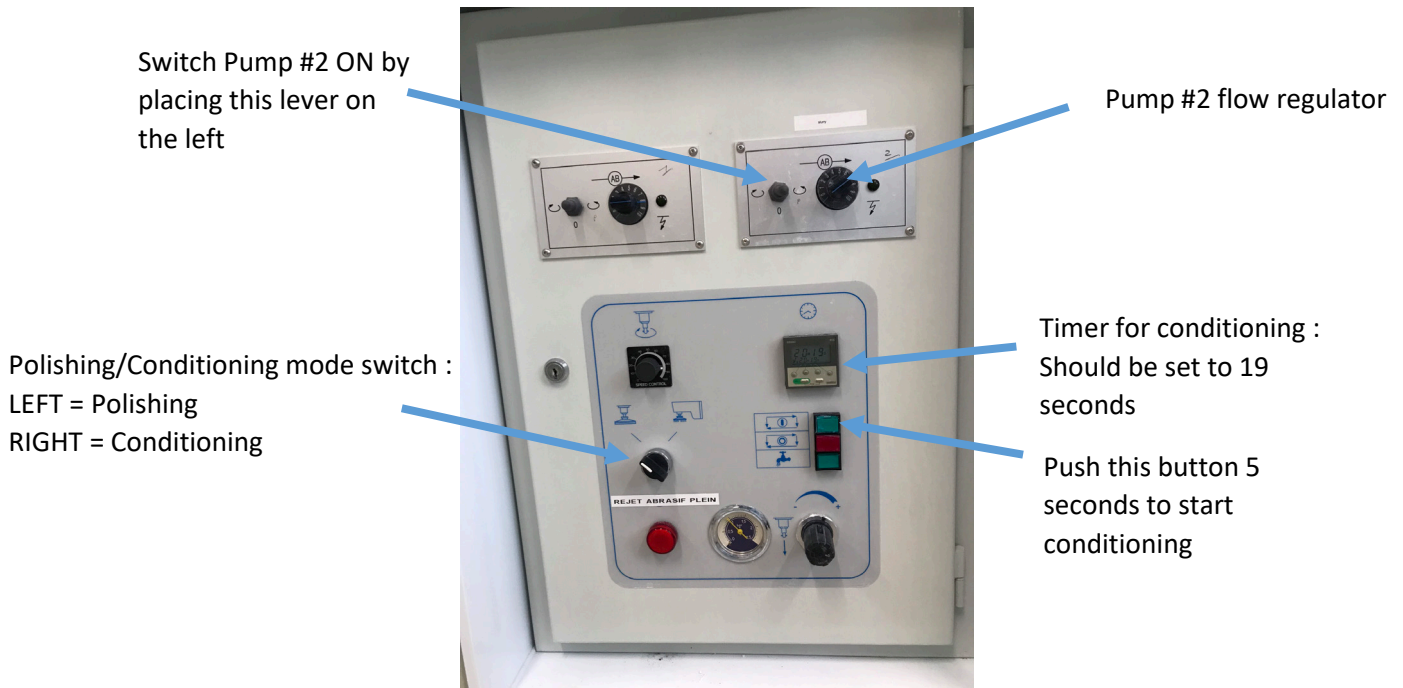

Fig. 7 : Panel for controlling the pumps, switching between polishing/conditioning mode and starting the conditioning
- g. Switch the pump ON (pump #2 if you are using slurry tube #2) by placing the lever on the left (Fig. 7). Rinse the line by pushing START (green round button on the main panel). Regulate the slurry flow to the maximum value. You will first see water flowing and after a moment slurry will flow (whitish color). When slurry flows, switch the flow to 2 and press STOP (red round button on the main panel).
- h. Place the machine in Automatic mode (red square button should be ON on the main panel). Run a conditioning of the pad : switch to conditioning mode and push the green square button for 5 seconds (Fig. 7) until the polishing head starts to move away from the pad. The timer for the conditioning should be set to 19 seconds.
- Switch to polishing mode (Polishing/Conditioning mode switch on left position, Fig. 7)